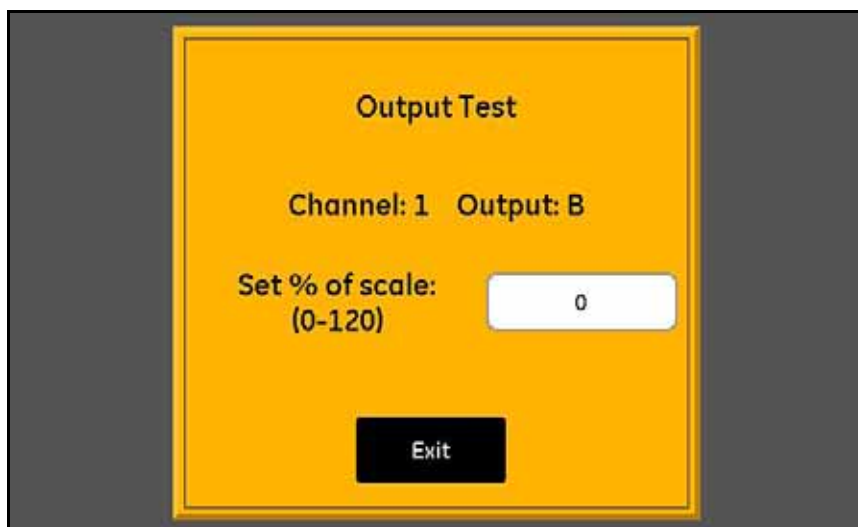

Figure 39: Output Test Screen
1. Tap the Channel (1-6) and Output (A or B) to be tested, and then tap the Test button to open a screen similar to *Figure 39* below.